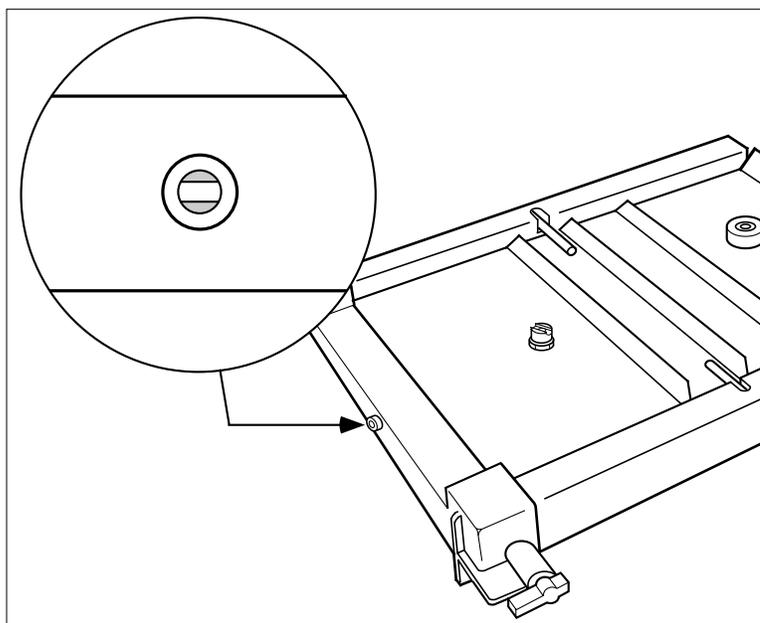

Fig. 4.5. Correct alignment of precision caster base with glass plate sandwich.
- Look through the injection port of the base. If the precision caster has been attached properly, a space should be seen between the two green glass plates (Figure 4.5).